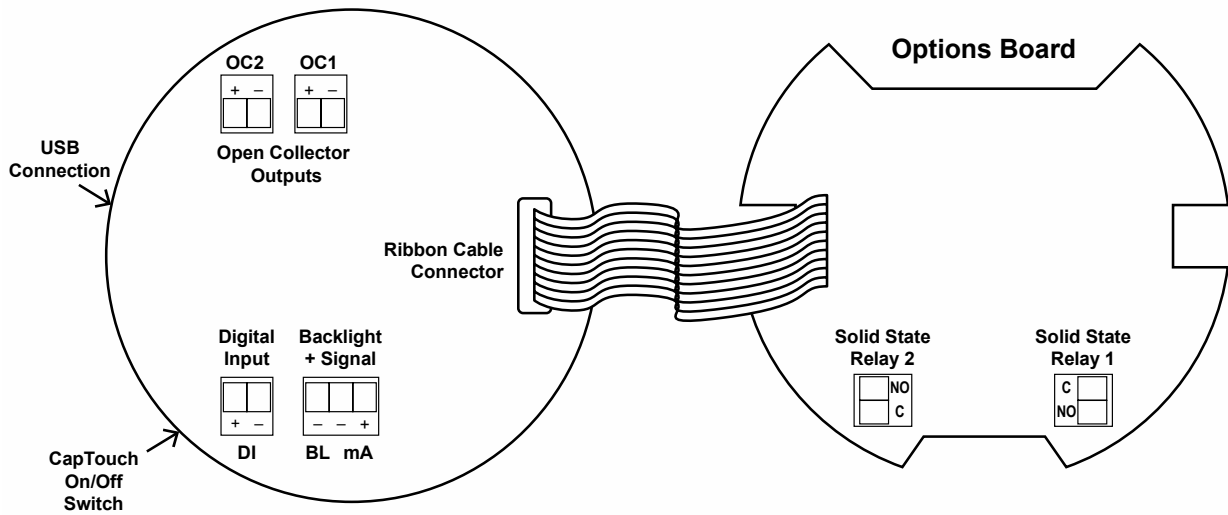

Figure 5. Connector Labeling for PD6928-GP-PL-L2N
Relay connections are made to two-terminal connectors, as shown on *Figure 5*, page 21. Each relay's C terminal is common only to the normally open (NO) contact of the corresponding relay.